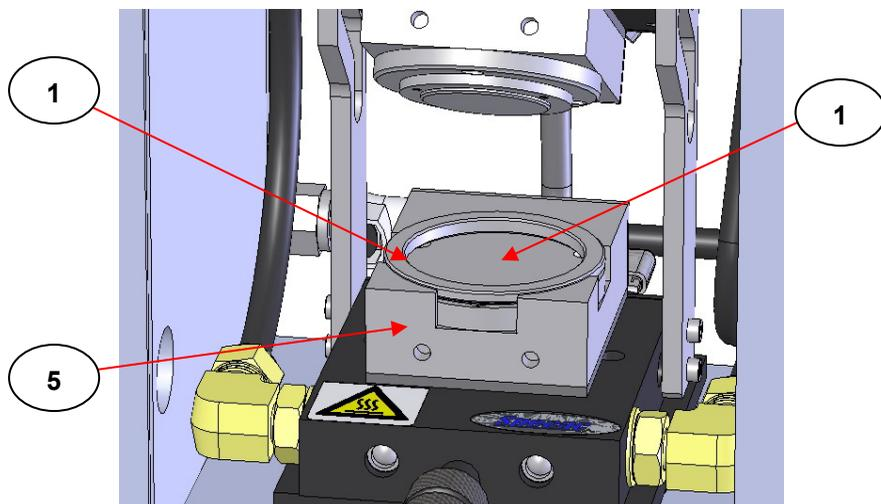

Fig 15. Spacer Ring Positioned in Lower Heated Pressing Surface Assembly
Locate the spacer ring (18) onto the lower polished pressing surface (14), ensuring that the **recessed edge surface is face down** in contact with the polished pressing surface (14). The spacer ring (18) will be held correctly and centrally in position by the surrounding lower heated pressing surface assembly of parts (5). With the Spacer ring (18) correctly positioned this way up on the lower polished pressing surface (14), a recess groove is created around the circumference between the spacer ring (18) and polished surface (14). Should it be necessary to do so, a small flat screwdriver blade can be used in this groove to prise the spacer ring away from its location if it has become stuck fast (e.g. from a flow of excess molten sample that has cooled on the spacer ring and polished surface), from an incorrect film making procedure. (See Fig 15.)